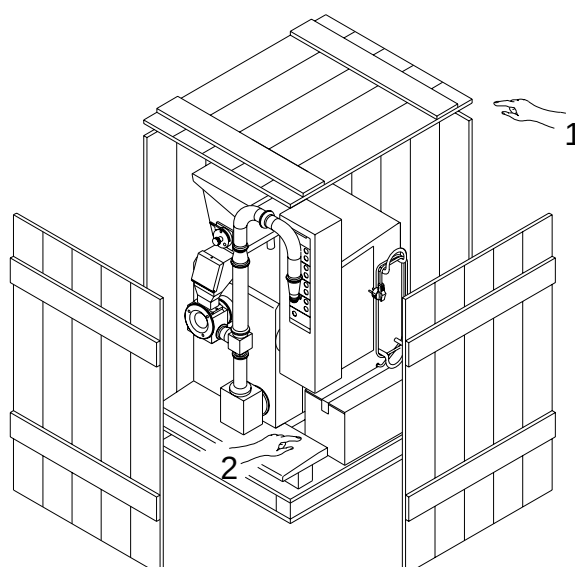

Fig.4.1
- a. Unnail the upper lid (1) and remove it (*Fig.4.1*). Do the same with the side panels. Pay particular attention to the wooden spacer blocks located between the sides of the crate.
- b. Remove the spare parts box (2) and the other components.